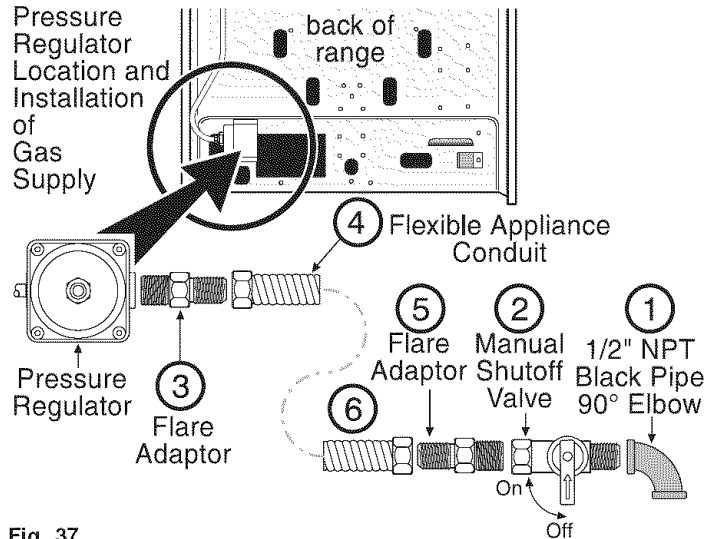

Fig. 37
This range is pre-set to operate on 4" natural gas manifold pressure. A convertible Pressure Regulator is connected to the manifold and **MUST** be connected in series with the gas supply line (Refer to Fig. 37).
C Connect the range to the gas supply (refer to Fig. 37).
Before connecting gas supply to range, **review the suggested power source location drawings** (Figs. 1, 3 & 4). To prevent leaks apply pipe joint sealant on all male (outside) pipe threading. The Pressure Regulator can be found mounted to the lower left rear of range (See Fig 37). To install the gas supply:
- 6.) Attach flexible Appliance Conduit to Flare Adapter on Shut-Off Valve (Fig. 37).